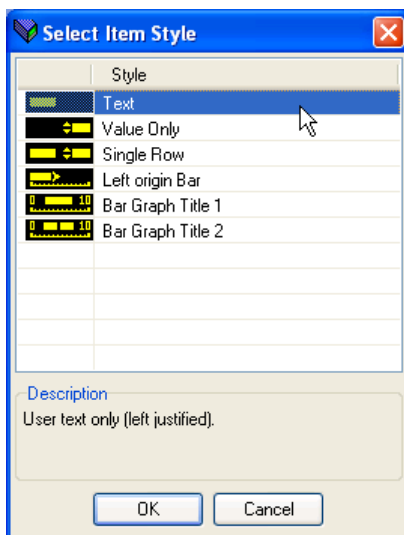

Figure 7.8.1a Style selection window
2. Double-click one of the cells in the 'Promote Parameter List' to display the 'Select Item Style' window (figure 7.8.1a).